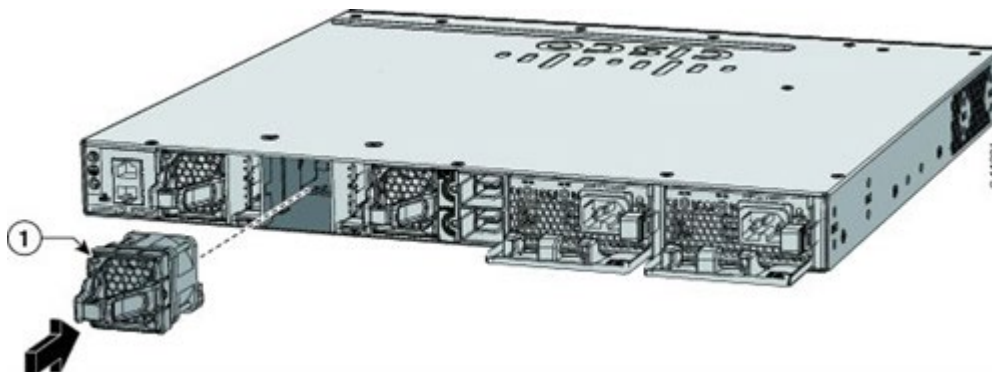

Figure 1 - Fan module
- 2.1 Perform a visual inspection of the switch to confirm that the fan module LED (indicated by the 1 marker in the figure 1) is an illuminated green LED.